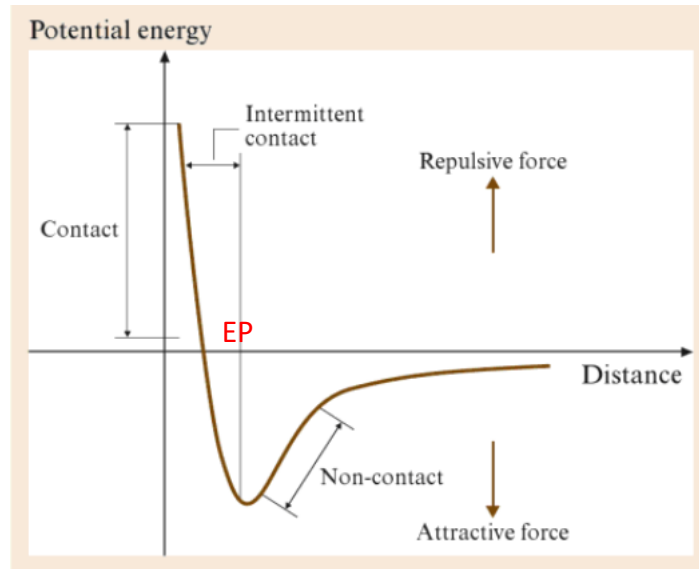

Figure 2 –
When the tip is close to the surface than an equilibrium distance it experiences a repulsive force. When the tip is further from the surface than an equilibrium distance it experiences an attractive force. Figure 2 shows these forces.
- (a) Label figure 2 to show the location of the equilibrium position (EP). (1 mark)